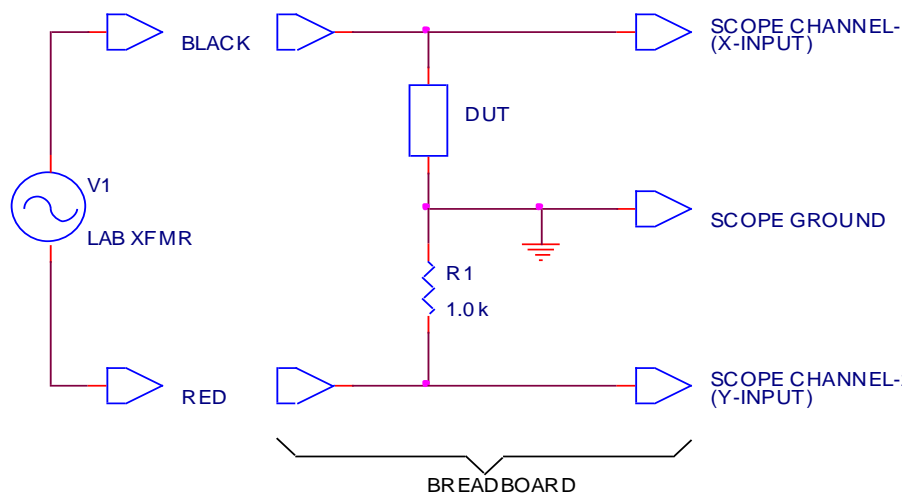

Figure E0.3
**Set-Up** Connect the circuit as shown in Fig. E0.3 using the following components
**Measurement-3** Turn the lab transformer power switch off and plug it into a 120 VAC receptacle. Connect one lead from the black terminal (+6.3 VAC) of the lab transformer to the DUT (select the 1N4007 diode first) and then connect another lead from the red terminal (–6.3 VAC) of the lab transformer to the resistor R1 on the breadboard as indicated in Fig. E0.3. This will establish a 21.2 V amplitude, 60 Hz sinusoidal input to the circuit.